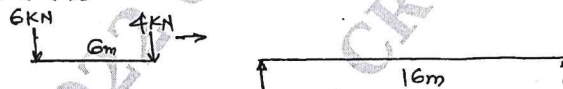

Fig.Q3(a)
- 3 a. Two point loads 4 kN and 6 kN spaced 6m apart cross a girder of 16m span, the 4 kN load, leading from left to right. Construct the maximum SF and BM diagrams stating the absolute maximum values. [Fig.Q3(a)].